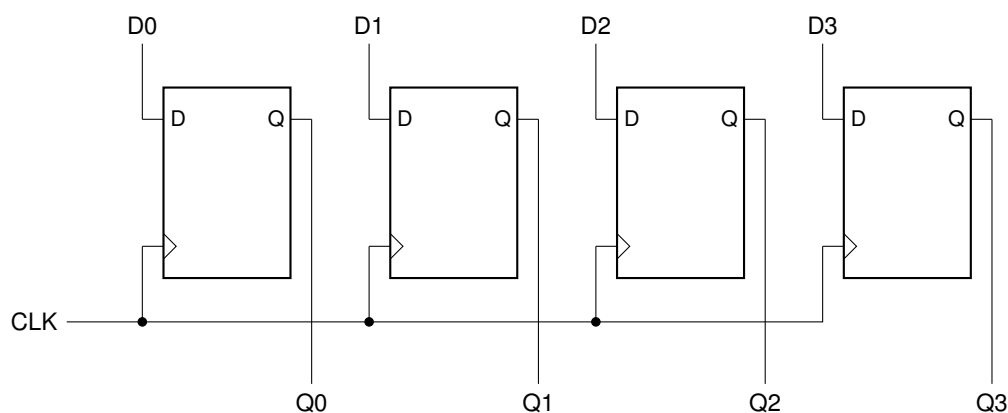

Figure 5.5: Schematic of a 4-bit parallel in/parallel out (PIPO) register.
**Parallel in/parallel out (PIPO)** registers are used in general purpose I/O registers, among other applications. Data is immediately made accessible to all flip-flops simultaneously. In addition, all of the outputs are immediately available. At each clock cycle, the outputs are updated to reflect any new data available on the inputs. PIPO shift registers are available that have control signals to either parallel load the data or to shift data in either direction. A schematic of a 4-bit PIPO (non-shift) register is shown in Figure 5.5.